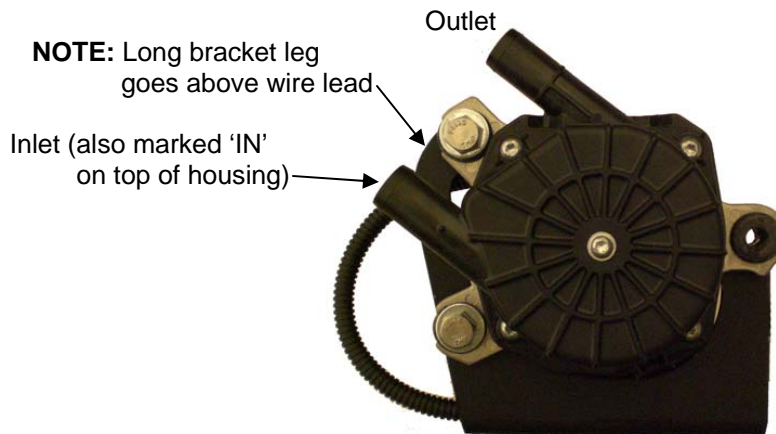

Figure 1
1. Plumb the inlet side of the pump to the valve cover. See Figure 1 below.
2. Plumb the outlet side of the pump to a breather tank to catch any oil residue that is pulled from the engine during operation. See Figure 1 below.